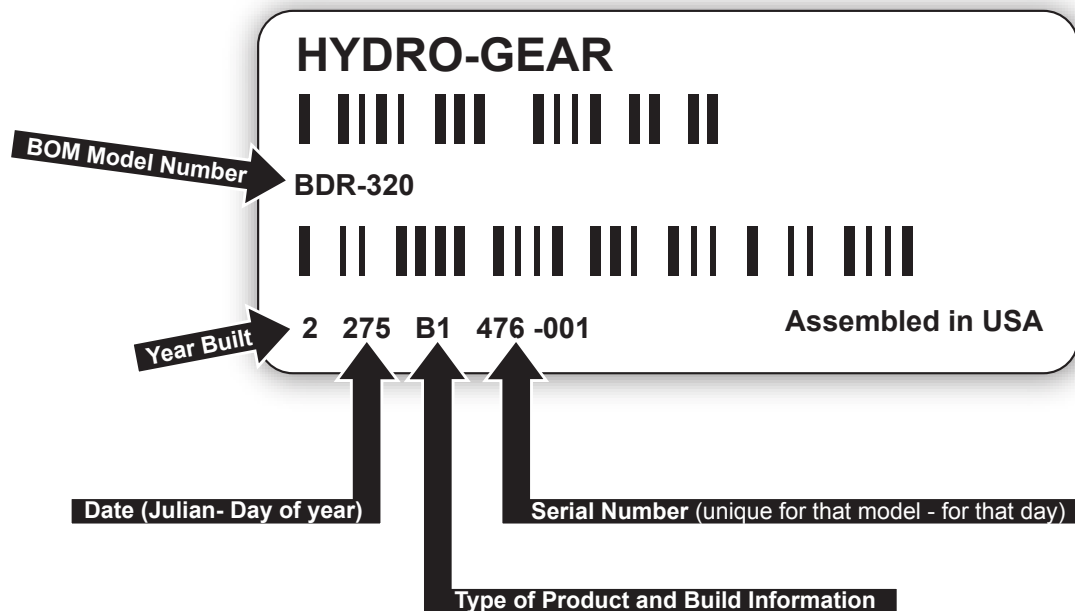

Figure 4. Configuration Label
2. Check oil level in accordance with Figure 4 Page 11.